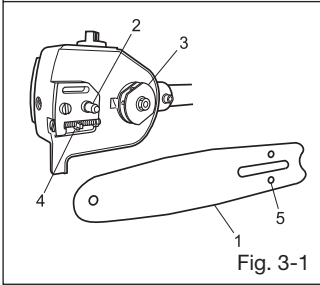

Fig. 3-1
Leikkuulaitteen kiinnittäminen (Fig. 3-1)
1. Install the chain bar (1) onto the bolt (2), then push it toward the sprocket (3) as far as it will go. Make sure that the boss of chain tension adjusting bolt (4) fits into the hole of the bar (5). (Fig. 3-1)